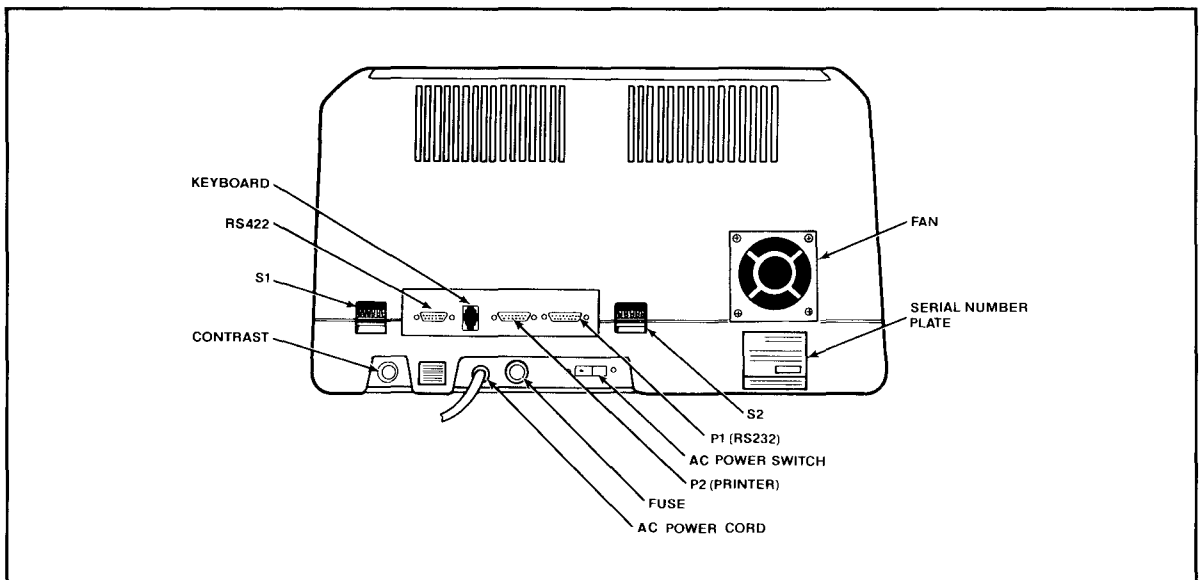

Figure 5-1 Rear Panel
2. Locate the ON/OFF rocker switch on the rear of the terminal (Figure 5-1). Push the end of the switch which is marked with a white dot.